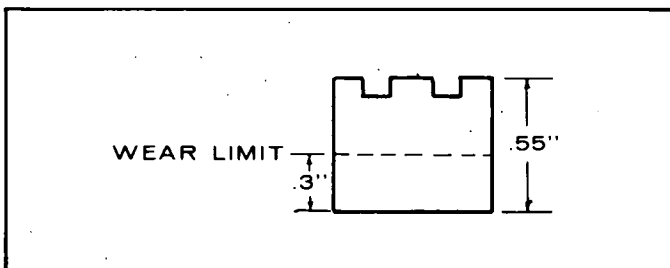

FIGURE 40. BRUSH WEAR LIMIT
8. **Inspection of Brushes.** Replace brushes when they are worn less than .3" as shown in Figure 40. See that all brushes move freely in their holders.